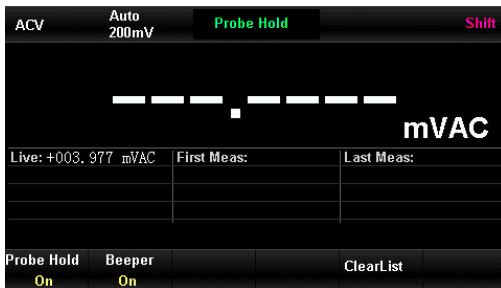

Figure 3-10 DCV Hold measurement
- 3) Press **[Shift]** → **[Single]** to enter the interface of Hold measurement. The DC voltage will be recorded as Figure 3-10.